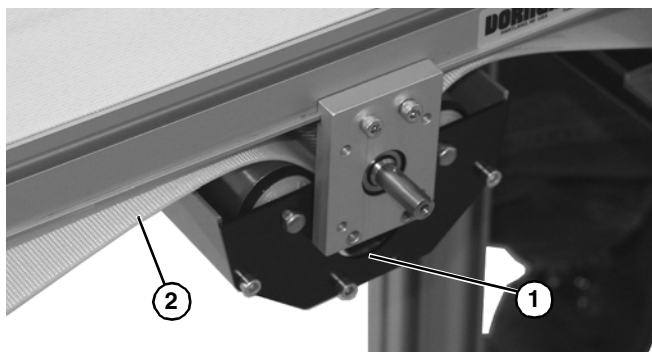

Figure 70
4. Lower and remove mid drive module (**Figure 70, item 1**) from belt (**Figure 70, item 2**).